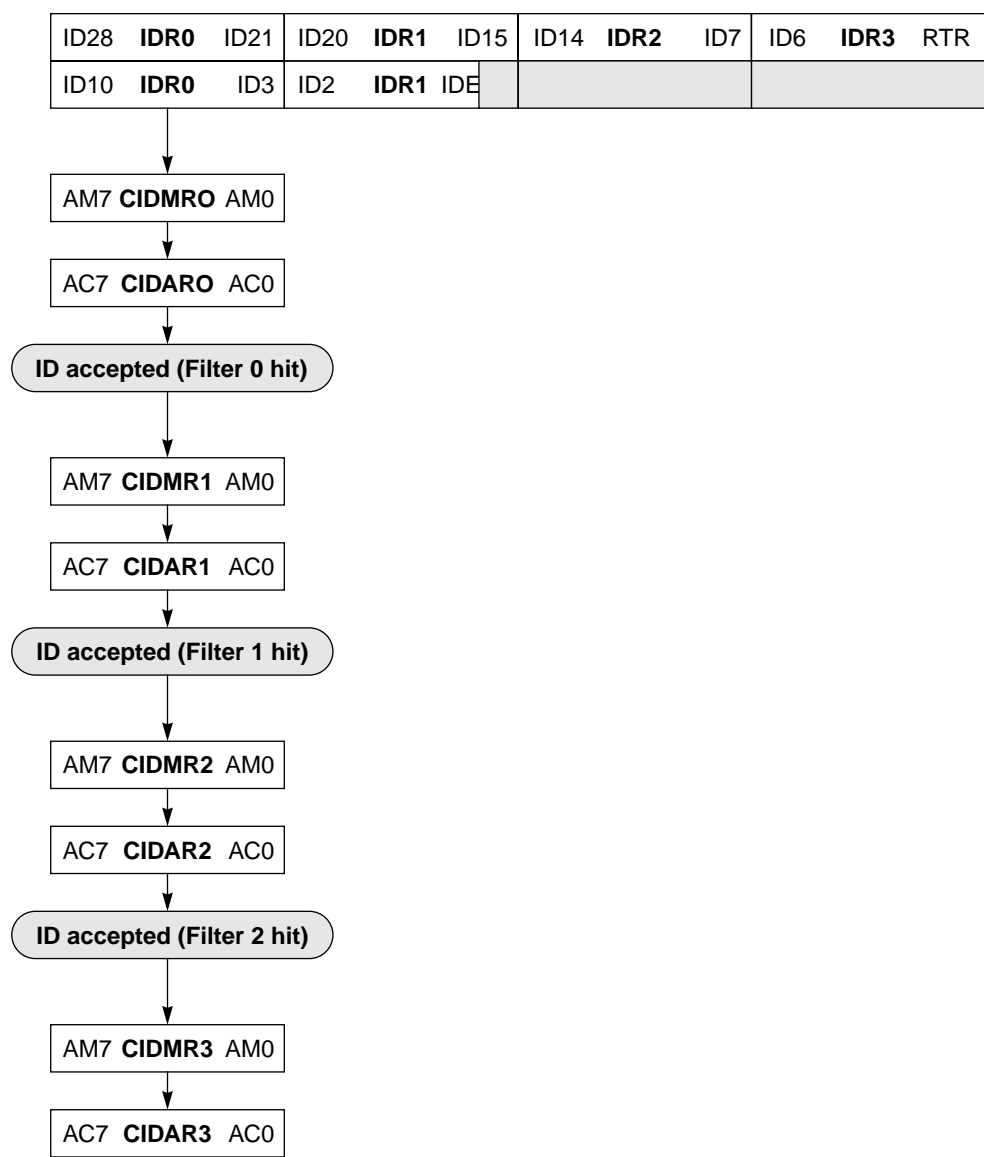

Figure 47 8-bit Maskable Acceptance Filters
- Eight identifier acceptance filters, each to be applied to the first 8 bits of the identifier. This mode implements eight independent filters for the first 8 bit of a CAN 2.0A compliant standard identifier or of a CAN 2.0B compliant extended identifier. Figure 47 shows how the first 32-bit filter bank (CIDAR0–3, CIDMR0–3) produces filter 0 to 3 hits. Similarly, the second filter bank (CIDAR4–7, CIDMR4–7) produces filter 4 to 7 hits.